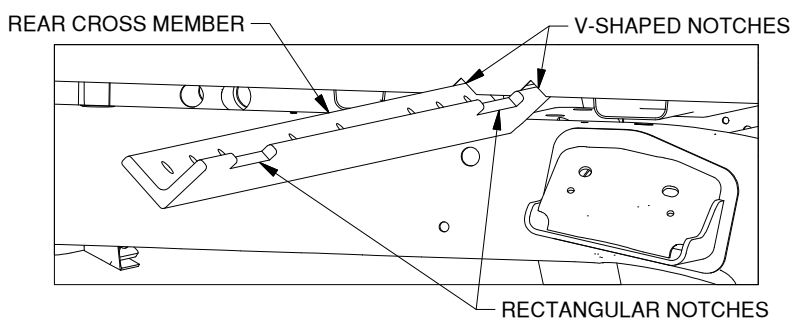

Figure C1: Looking into passenger side wheel well.
- 1. Position rear cross member.** Locate the rear cross member and the area where the V-shaped notches were cut. Orient the rear cross member so the leg with the rectangular notches is toward the front of the truck. Slide the rear cross member through the V-shaped notches and between the bed and the frame until it spans the driver and passenger frame rails, as shown in Figure C1. Rotate the rear cross member so the leg with the rectangular notches is vertical. The leg with the holes should be flat against the top of the frame toward the rear of the truck.